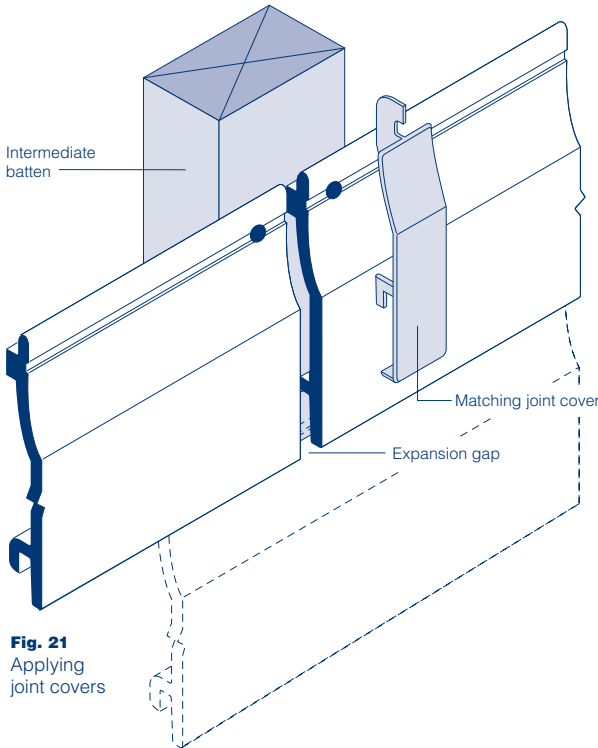

Fig. 21 Applying joint covers
- If using joint covers (as opposed to centre joint trims), install tight to the plank ends as work proceeds. All joint covers should be fixed over supporting battens. See figure 21.